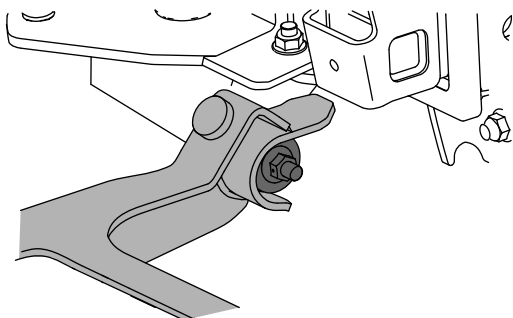

Figure 12
8. Place the blower assembly forks onto the bushing assemblies (Figure 12).